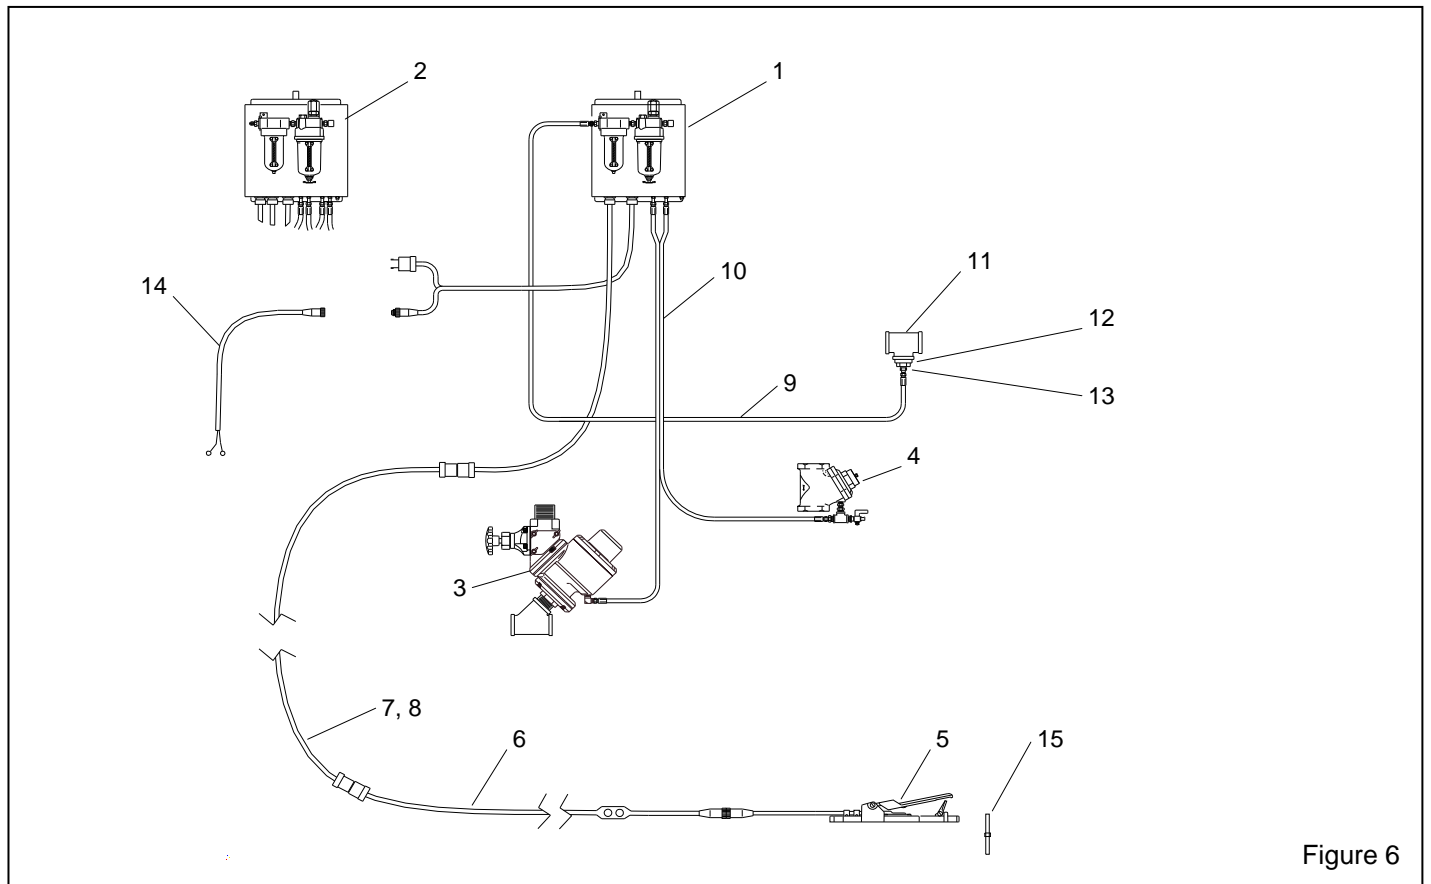

Figure 6
**8.2 Quantum Remote Control System Replacement Parts, Figure 6**